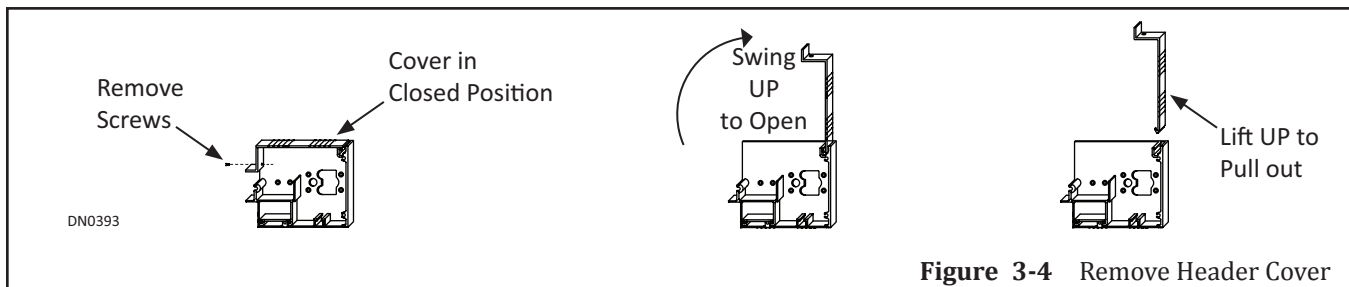

Figure 3-4 Remove Header Cover
4. Go to the bottom of Header, remove (2) #8-32 x 5/8" Phillips head screws used to secure the removable Cover. Save for reinstallation.
5. Remove the Cover by lifting it up and then pulling it out. Please see Figure 3-4.